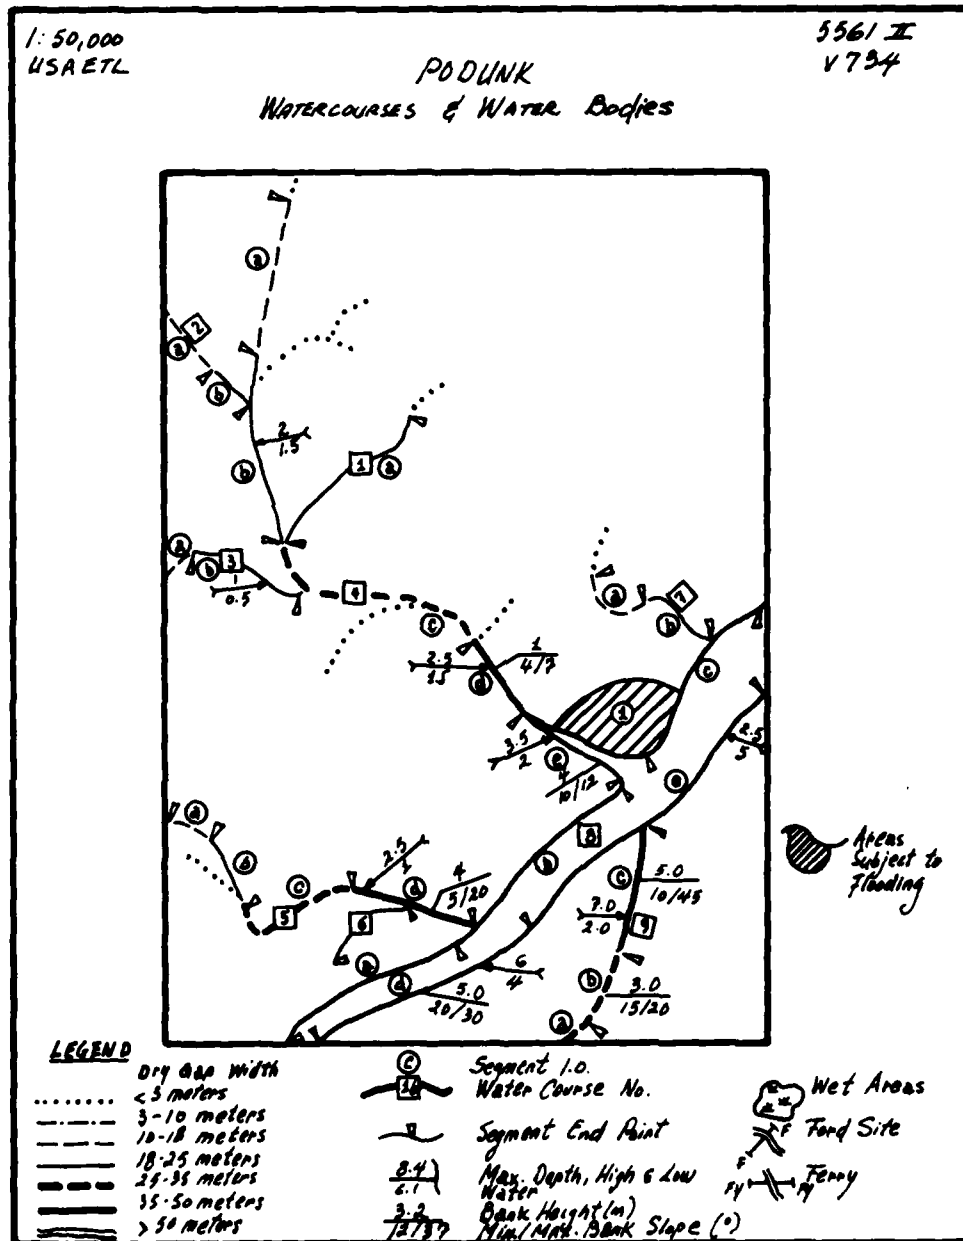

Figure 12. Sample Watercourses and Water Bodies Factor Overlay
a. Remove the Complex Overlay from the Vegetation Factor Overlay. Put the Vegetation Factor Overlay aside for later use. Pull the Watercourses and Water Bodies Factor Overlay (figure 12) out of the data base. Place the Complex Overlay (which now may have red areas, yellow areas, and black lines on it) on top of the Watercourses and Water Bodies Factor Overlay. Pin-register (or match corner ticks and tape).